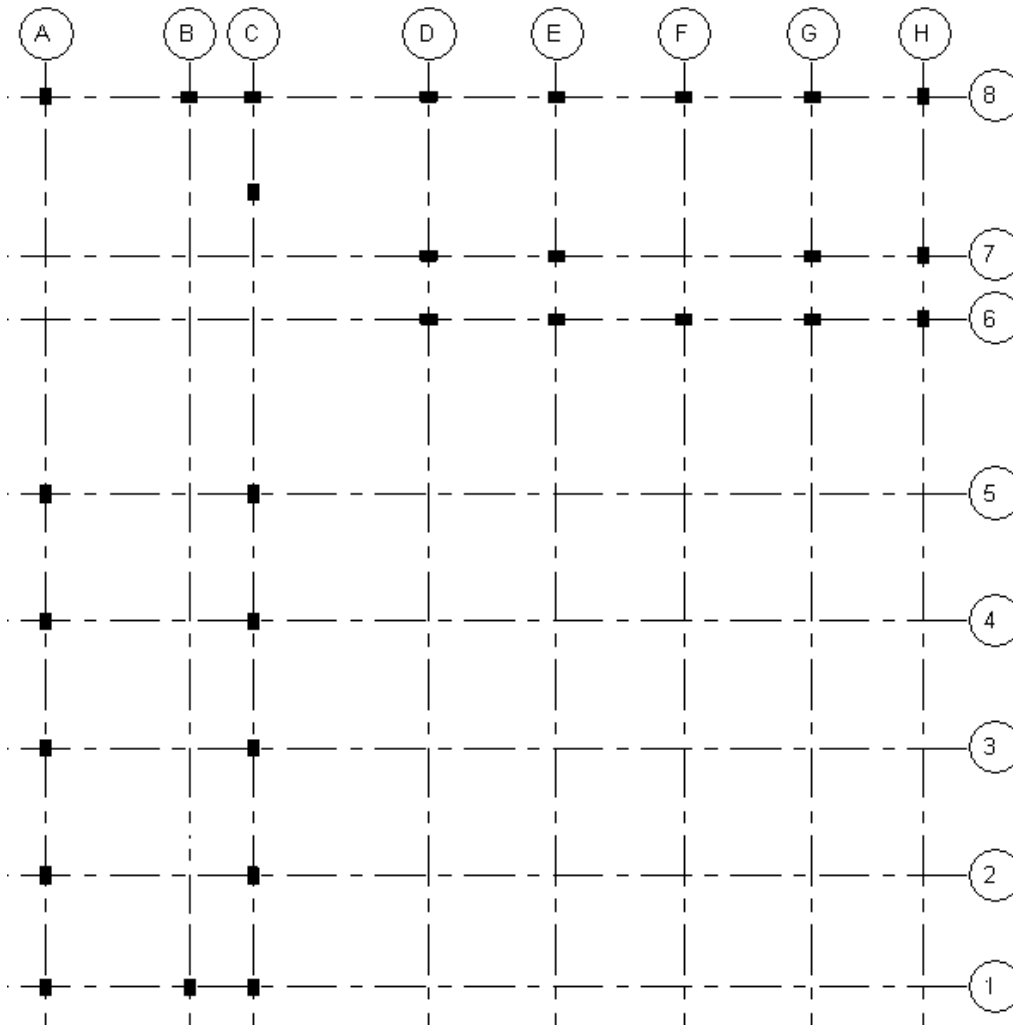

Fig. 2.9 – Foundation Plan
7. The Foundation Plan view looks as shown in Fig 2.9.